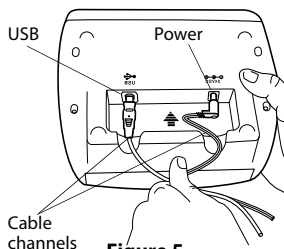

Figure 5
- 2 Plug the power adapter into the power connector on the bottom of the printer. See Figure 5.
- 4 Plug the USB cable into the USB port on the bottom of the printer. See Figure 5.